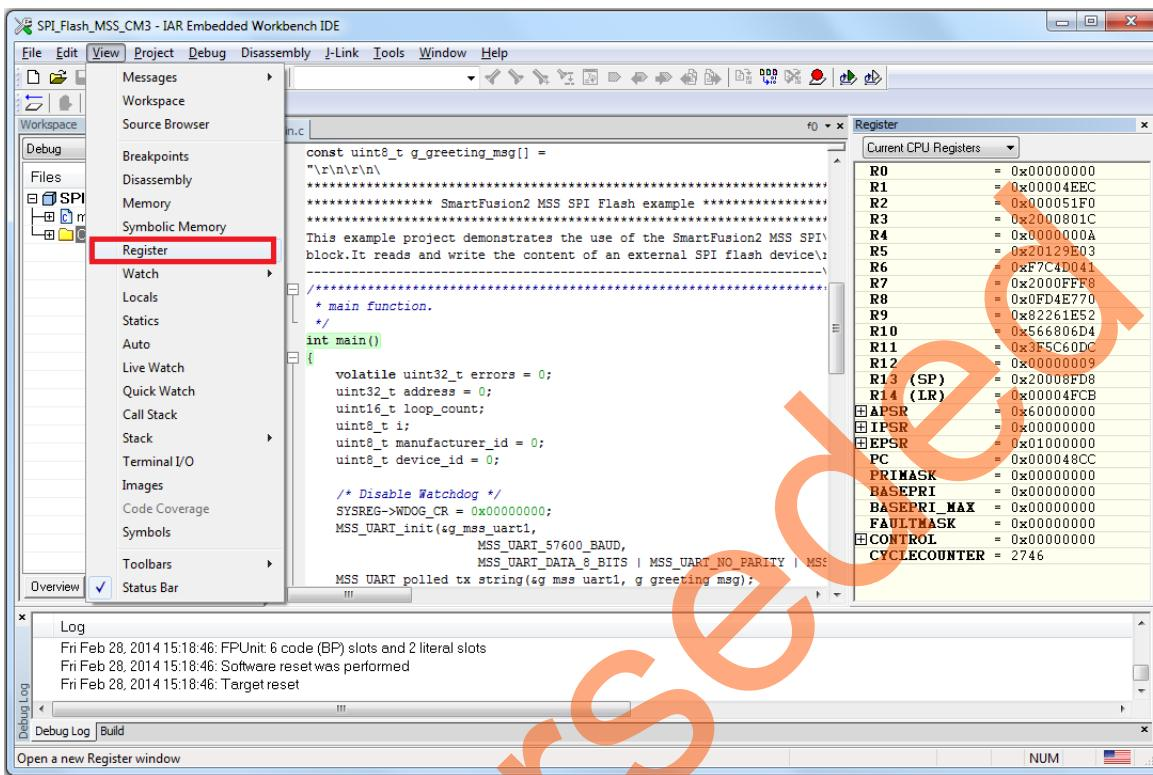

Figure 44 • Values of the Cortex-M3 Internal Registers
5. Click **View > Register** to view the values of the ARM® Cortex™-M3 processor internal registers as shown in Figure 44.